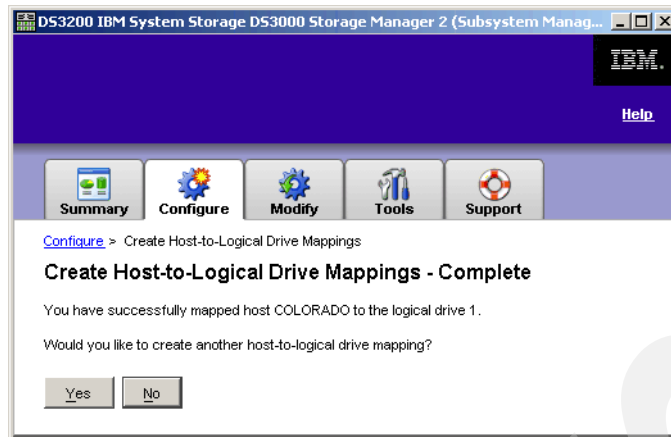

Figure 16-15 Host-to-Logical-Drive Mappings - Complete
3. You will see the progress bar while the operation takes place. Click **OK** in the progress window to display the completion window (see Figure 16-15).